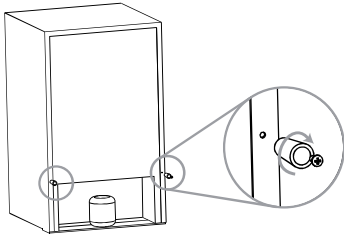

Fig.2
**2 If present, install the wall spacer in a central position at the rear of the appliance.(Fig.2)**